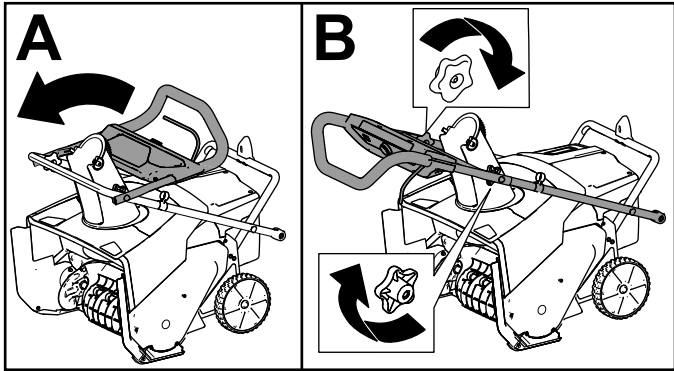

Figure 3
2. Unfold the upper handle and allow the upper handle knobs to snap into place (A of Figure 3).
3. Tighten the handle knobs (B of Figure 3).